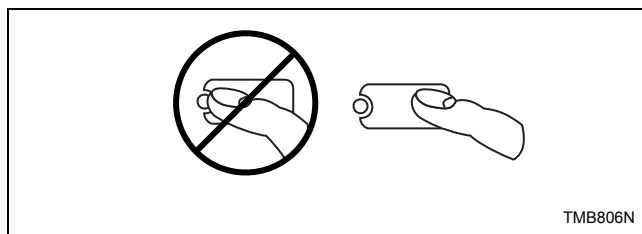

Figure 34
**NOTE: Do not press directly on lights or the center of pad. For proper selection, press on pad slightly to the right of center. Refer to Figure 34.**